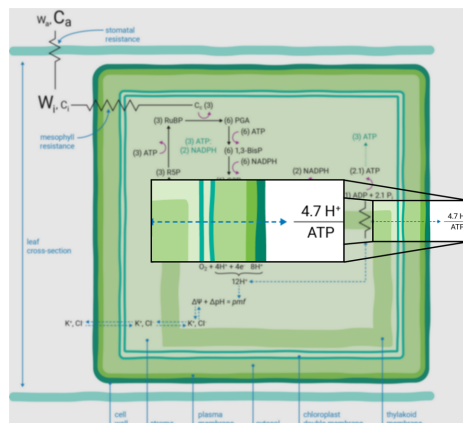

Figure 5. The ratio of H^+ to ATP is typically 4.7.
In contrast, given the putative c-subunit composition of the chloroplast ATP synthase (22) (Figure 5 above), an H^+/ATP ratio of 4.7 has been suggested. The net result is a deficit in the amount of ATP produced by linear *ETR* alone in comparison to that needed to balance the ATP:NADPH ratio for CO_2 assimilation alone. Cyclic electron transfer (*ETR*) around PSI has been suggested as a mechanism for augmenting the *pmf*, thereby accounting for the deficit of ATP produced by linear *ETR* (23, 24). The rate of cyclic *ETR* around PSI needed to accommodate for the short fall in ATP formation has been suggested to be about 12% of linear *ETR* (21).